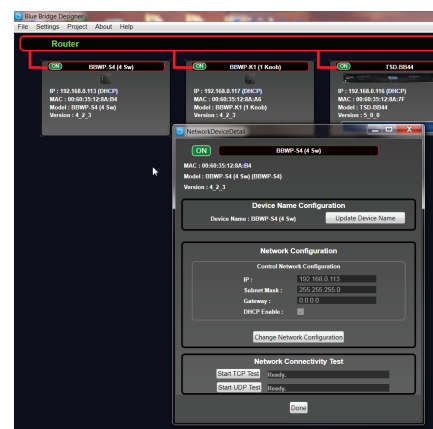

Fig. 22
4. Device Set Up: (See Fig. 22)